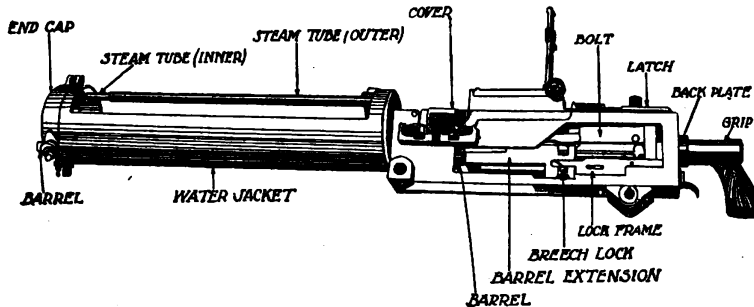

FIGURE 31.—Browning machine gun, caliber .30, M1917.
b. Caliber .30 machine gun.—(1) *Nomenclature and action.*—*Q.* point out and state the uses of the important parts shown in figure 31.
A. See figure 31.